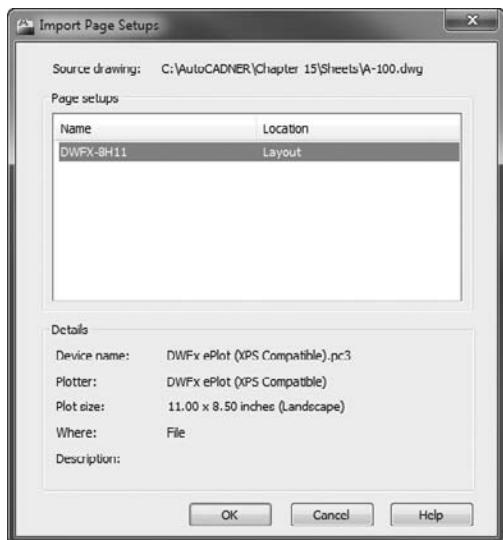

FIGURE 15.21 Selecting the page setups to import from the Import Page Setups dialog box
3. After selecting the A-100.dwg file, the Import Page Setups dialog box shown in Figure 15.21 opens to list all the page setups saved inside the selected drawing. Make sure DWFx-8H11 is selected and click OK.